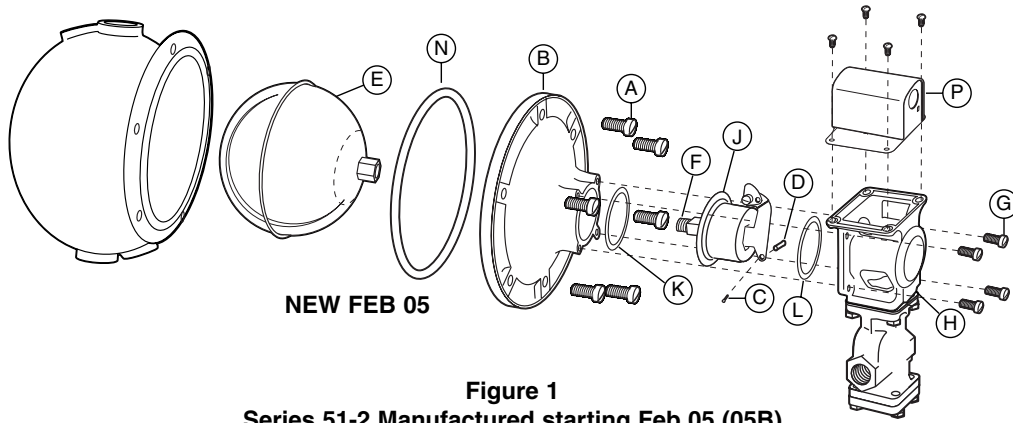

Figure 1
Determine which series water feeder/low water cut-off you have from figures 1 through 4 on page 3.
- **Units manufactured before May 99 (99E) and starting February 05 (05B) use figure 1 or**
- Remove four (4) screws or hex screws (G). Carefully slide die casting and valve assembly (H) over switch cam and set aside. Remove bellows cup (J) from head casting (B).
NOTE: New replacement bellows cup (J) will require one time float (E) replacement. See figure 1 or 3. Although similar, the floats and bellows assemblies from before May 1999 do not fit new assemblies.
- Clean gasket surfaces on head casting (B) and die casting and valve assembly (H).
- Put gasket (K) in the recess on the head casting (B). Place the other gasket (L) over the bellow cup (J).
- Install the bellow cup (J) into the head casting (B). Make sure the tab on the bellows cup fits into the notch on the head casting.
- Carefully slip die casting-and-valve assembly (H) over switch cam and attach it to head casting (B), using the four (4) screws (G).
- Screw float (E) into float arm (F) of bellow cup (J). Make sure float is screwed on all the way.
- Install head casting (B) onto float chamber using new gasket (N) and six (6) bolts (A). Tighten in a star pattern to 35 - 40 ft./lbs. (35-40 N•m).
- Reinstall the piping and the No. 2 switch (P) if necessary.